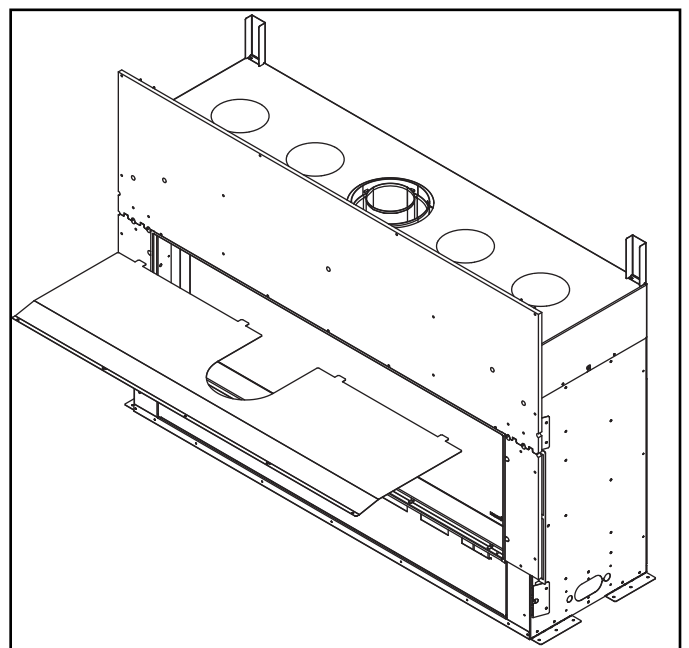

Figure 5.8 Remove Heat Shield
7. Carefully pull the heat shield out of the appliance as shown in Figure 5.7 and Figure 5.8. Discard heat shield. Repeat procedure on other side if application is on a see-through appliance.